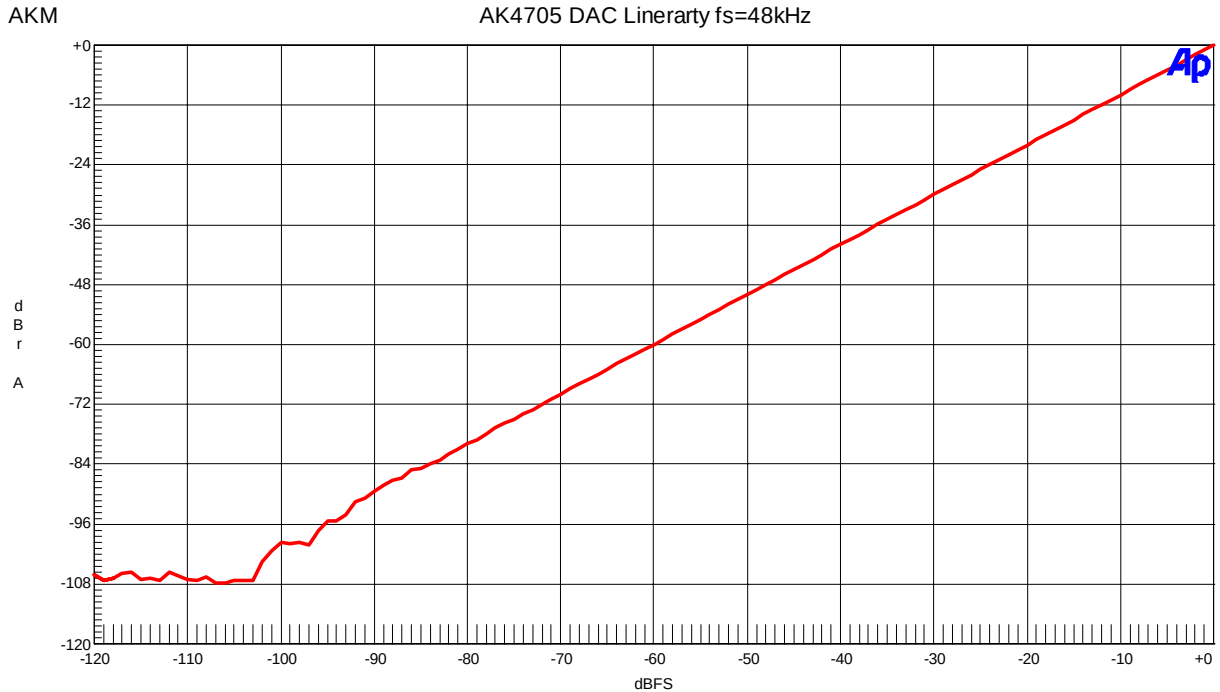

Figure1-7. Linearity (fin=1kHz)
- Figure 1-7. Linearity (fin=1kHz)